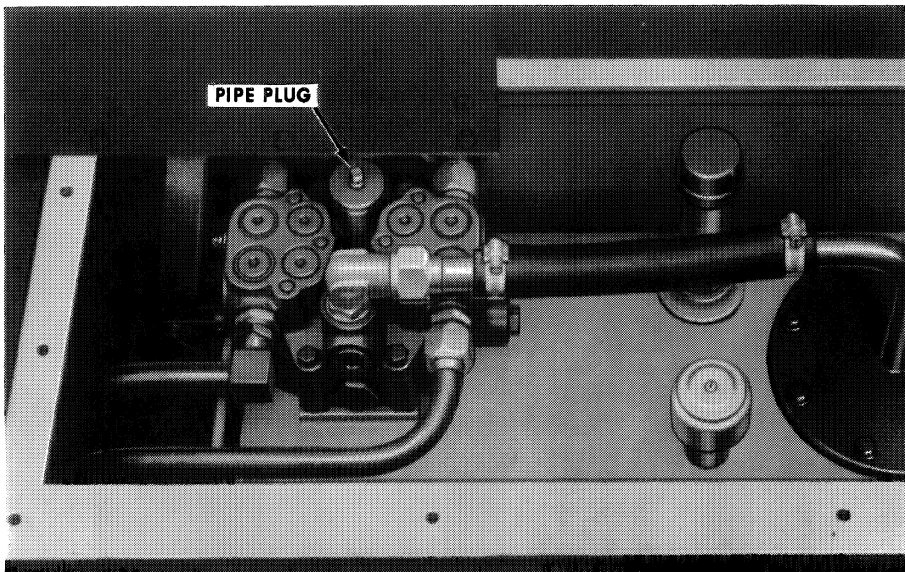

Figure 65
3. Remove the small pipe plug shown in Figure 65.